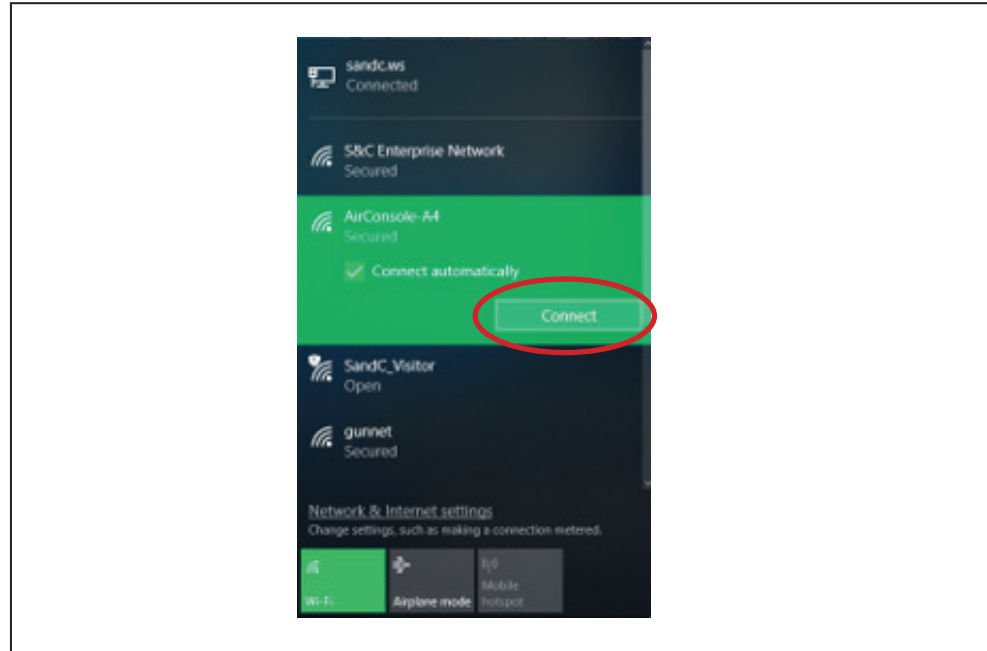

Figure 10. Connecting to the Wi-Fi adapter.
- STEP 4.** After turning on the Wi-Fi adapter and physically connecting it to the Micro-AT control, join a computer to the wireless network containing the name Airconsole-XX. See Figure 10 for an example.